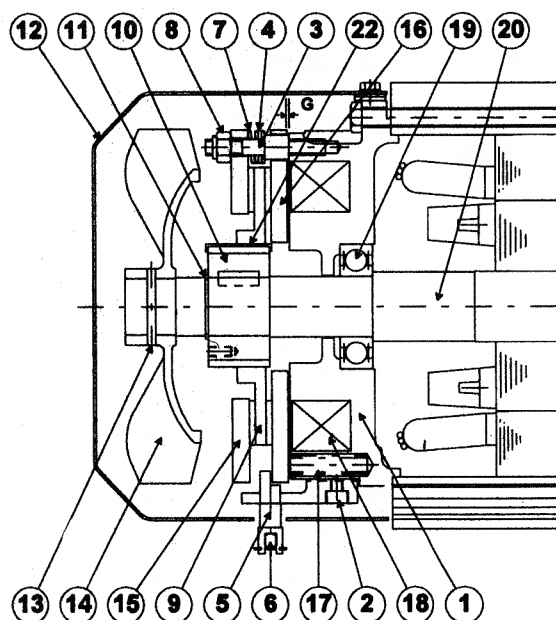

Fig. C-5 FB-5B, FB-8B Models
Fig. C-5 and Fig. C-6 illustrate the construction of the brake. Among the brake parts, stationary core (1), solenoid coil (18), and stud bolt (3) constitute an integral sub-assembly unit. The armature plate (16) is kept from rotating by the stud bolt (3), but moves axially by electromagnetic attraction and the tension of the pressure spring (17). The adjusting washer (4) and spring washer (7) hold the brake shoe (15) against the nut (8) at all times. The brake lining (9) is fit to the hub (10), which is secured to the motor shaft with a key. The solenoid coil is energized via a rectifier provided within the terminal box.
The brake lining will wear after the unit has been used for a long period of time. It is necessary to check the brake for gap G from time to time (Figs. C-5 and C-6). Should gap G become too large, the solenoid coil may fail to pull in the armature plate and hence cannot release the brake, resulting in the unit remaining in a continuously braked condition.